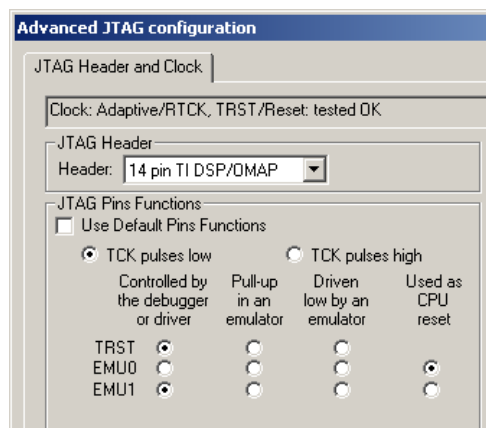

FIGURE 34 Configuring the JTAGjet-eBinder driver to use the EMU0 signal as the CPU reset signal (EmuDiag for the JTAGjet-eBinder).
- Note 4** Certain JTAGjet driver packages may not easily allow configuring EMU0 and EMU1 as nSYSRST. Therefore it is recommended to leave the DIP switch in its default position. The software is unable to determine the position of this switch automatically. When SW2 or SW4 are ON, the software needs to be configured accordingly. Sample settings that allow EMU0 to act as a CPU reset signal (nSYSRST) are shown in **Figure 34**.